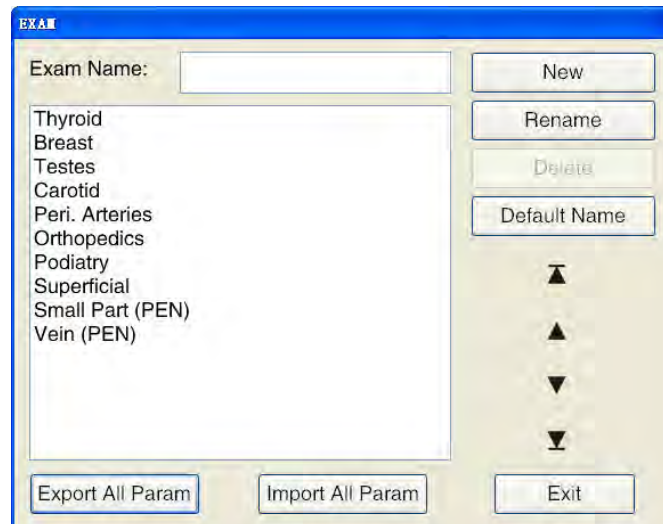

Figure 31: Examination settings
- a) Move the cursor to **Edit** and click on **Set** to open the setup screen, as shown in Figure 31 .